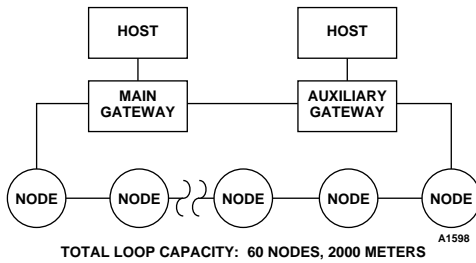

Figure 14—Eagle System with Two Gateways
*The addition of a second or third gateway to the loop (auxiliary gateway) does not allow additional nodes or wiring to be added to the loop. The use of an auxiliary gateway is intended to allow additional host devices to be connected to the network and/or to provide a backup in the event of a main gateway failure (Figure 14). If the number of detection nodes or the wiring distance of the loop exceeds the limits of the main gateway, one or more network extenders will be required.*